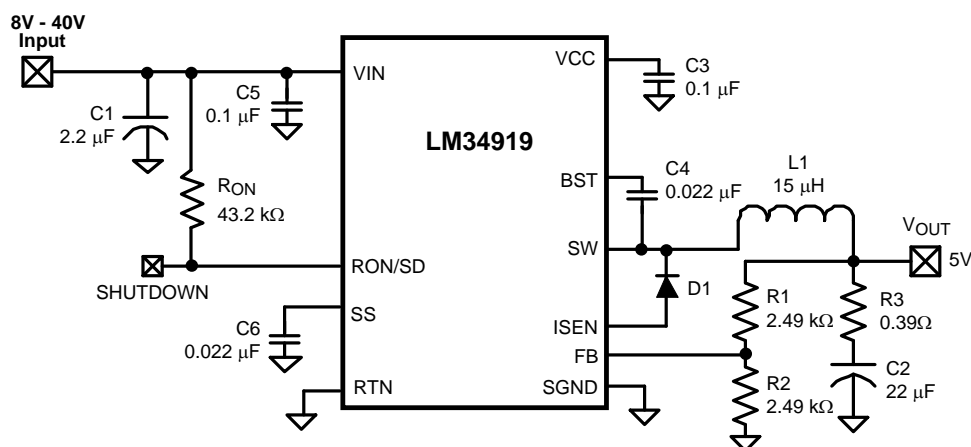
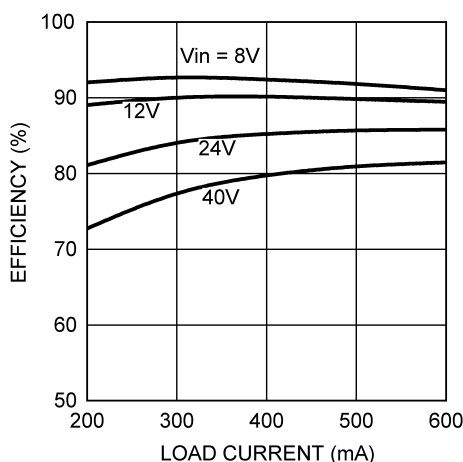
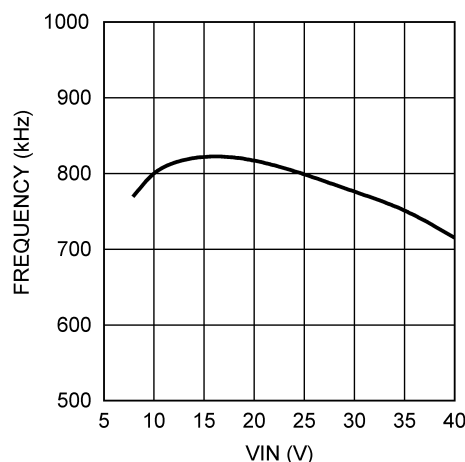
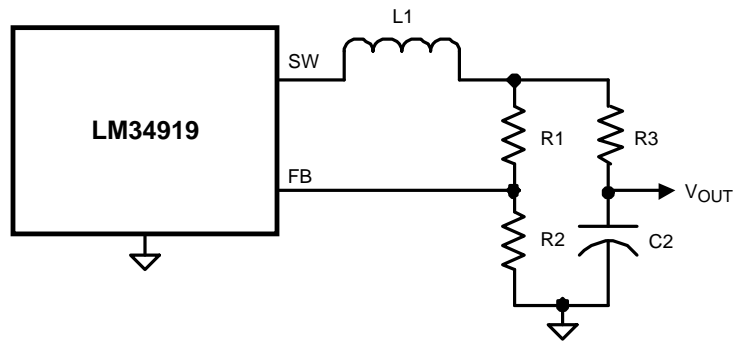

Figure 15. Example Circuit
Figure 16. Efficiency vs. Load Current and V_{IN} (Circuit of Figure 15)
Figure 17. Frequency vs. V_{IN} (Circuit of Figure 15)
Figure 20. Alternate Minimum Output Ripple Configuration
The final circuit is shown in Figure 15, and its performance is shown in Figure 16 and Figure 17. Current limit measured approximately 650 mA at 8V, and 740 mA at 40V.
c) Alternate minimum ripple configuration: The circuit in Figure 20 is the same as that in Figure 15, except the output voltage is taken from the junction of R3 and C2. The ripple at V_{OUT} is determined by the inductor's ripple current and C2's characteristics. However, R3 slightly degrades the load regulation. This circuit may be suitable if the load current is fairly constant.